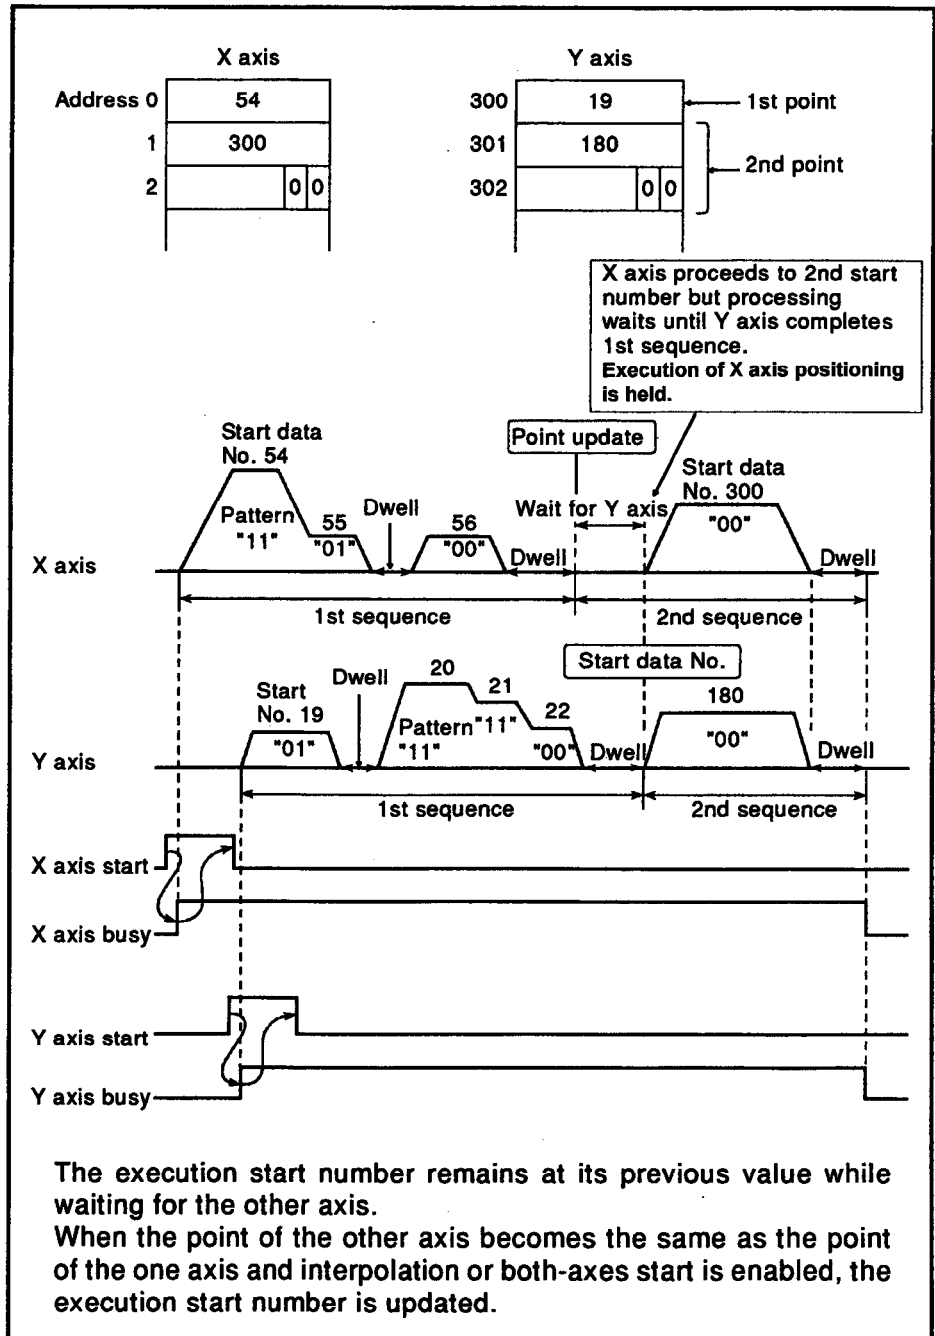

Fig. 3.36 Start Data Example 5
5) In a situation where interpolation (00) or independent (11) start has been defined at one axis and the other axis is still positioning, processing will vary as described below.
- An axis will wait for the other to finish its current process or for its busy signal to turn off. This is illustrated in Fig. 3.36 below.